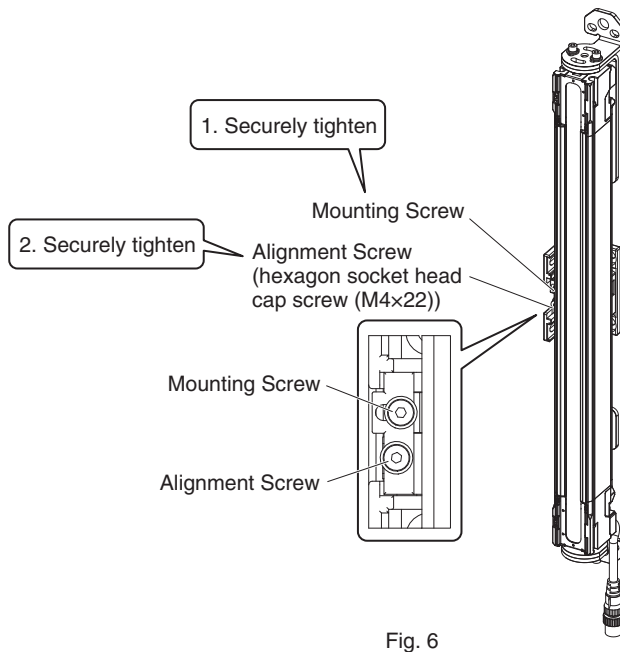

Fig. 6
5. Securely tighten the Mounting Screw to fix the Adjustable Side-Mount Bracket to the sensor housing. The recommended torque to tighten the Mounting Screw of the Adjustable Side-Mount Bracket is 3.0 N•m. Then loosen the Alignment Screw (hexagon socket head cap screw (M4×22)) of the Adjustable Side-Mount Bracket. (Fig. 6)